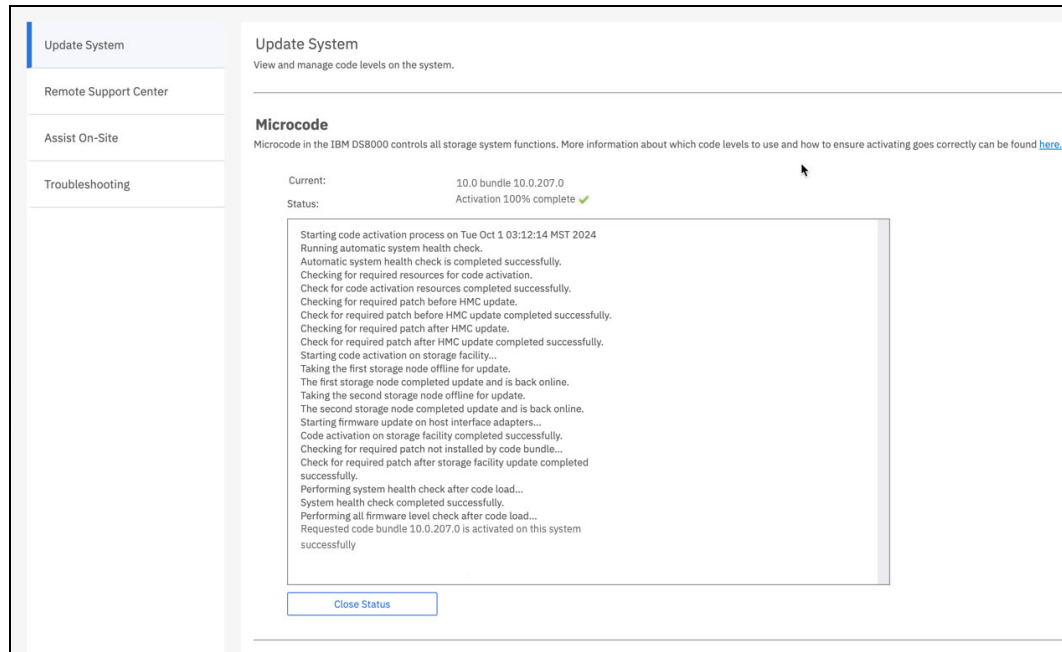

Figure 11-11 Code Activation Complete
6. The code activation progress can be tracked in the Storage Manager GUI until the end. After it completes, it displays a message confirming that the activation is complete (see Figure 11-11).